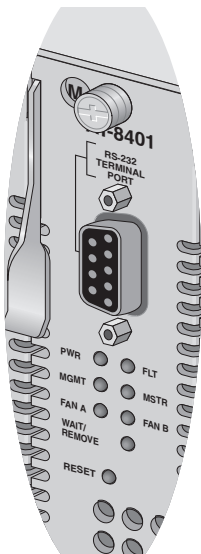

Figure 10. AT-8401 Management Card LEDs
4. Examine the LEDs on the AT-8401 management fabric card. See Figure 10 on page 18.